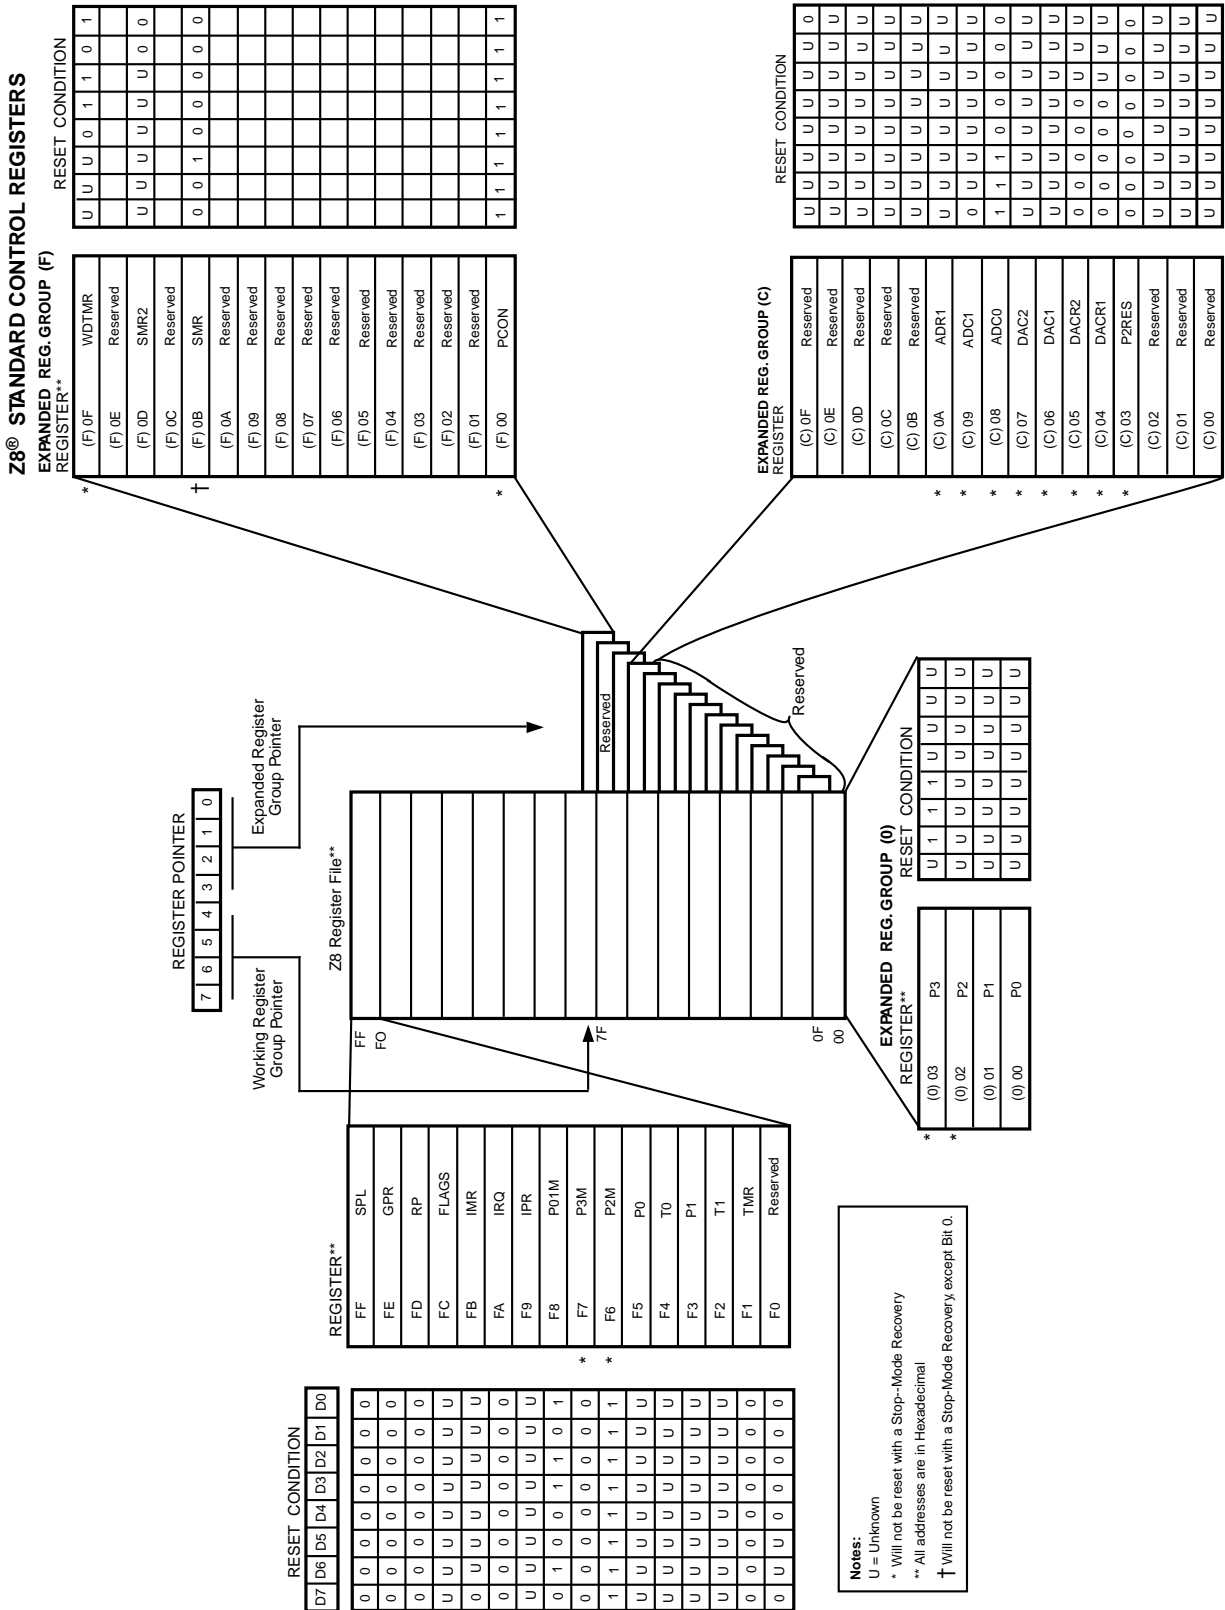
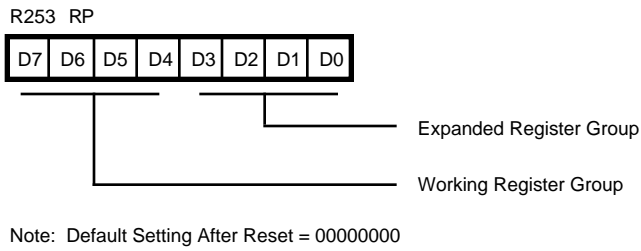
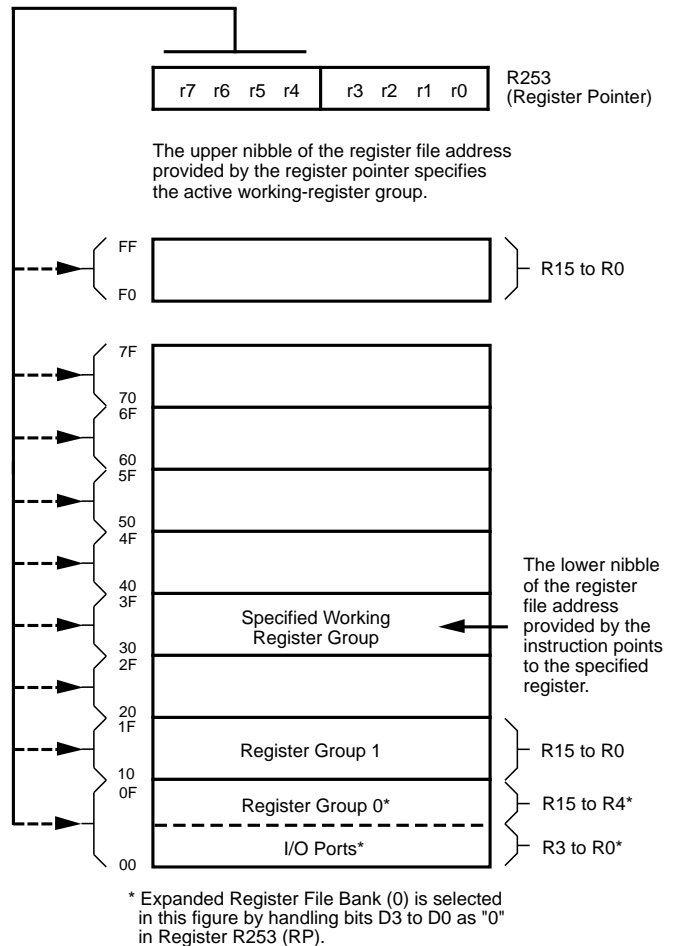

Figure 16. Expanded Register File Architecture
Figure 17. Register Pointer Register
Figure 18. Register Pointer
Expanded Register File. The register file has been expanded to allow for additional system control registers and for mapping of additional peripheral devices and input/output ports into the register address area. The Z8 register address space R0 through R15 is implemented as 16 groups of 16 registers per group (Figure 16). These register banks are known as the Expanded Register File (ERF). Bits 3-0 of the Register Pointer (RP) select the active ERF bank. Bits 7-4 of register RP select the working register group (Figure 17). Four system configuration registers reside in the ERF address space in Bank F and eight registers reside in Bank C. The rest of the ERF addressing space is not physically implemented, and is open for future expansion.
Register File. The Register File consists of three I/O port registers, 237 general-purpose registers, 15 control and status registers, and four system configuration registers in the Expanded Register Group (Figure 16). The instructions can access registers directly or indirectly through an 8-bit address field. This allows a short 4-bit register address using the Register Pointer (Figure 18). In the 4-bit mode, the Register File is divided into 16 working register groups, each occupying 16 continuous locations. The Register Pointer addresses the starting location of the active working-register group.